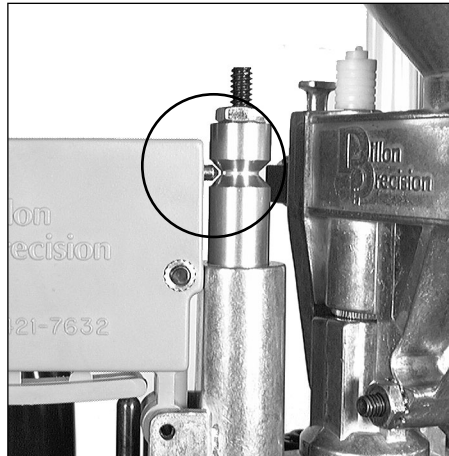

FIG 142
6. Thread the grooved sleeve down so that the contact pin fits inside the groove as seen in **FIG 142**.